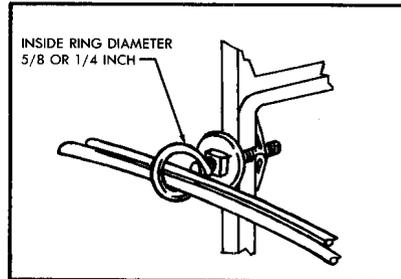

FIGURE 3. Toggle Bridle Ring
**5.03 Toggle Bridle Ring (Figure 3):** This attachment, available in two sizes, 3/4 inch and 1-1/4 inch, is used to attach station wire and cable to hollow surfaces. A predrilled 3/4-inch clearance hole is required.